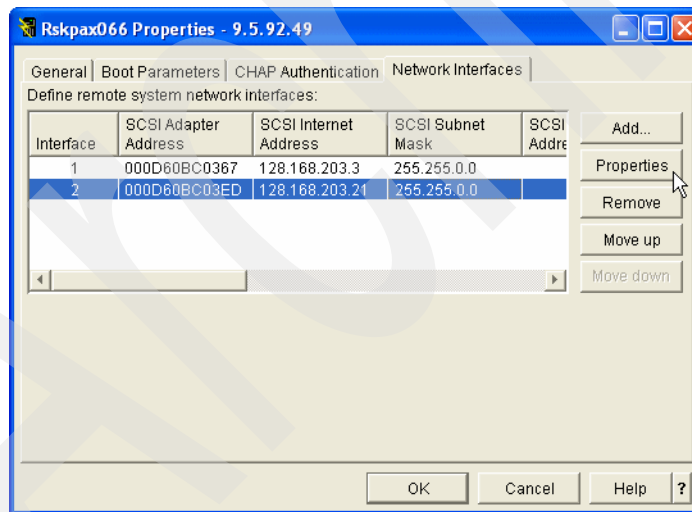

Figure 9-72 Disabling the SCSI side of an initiator HBA port - 1
4. Select the **Network Interfaces** tab as shown in Figure 9-72.